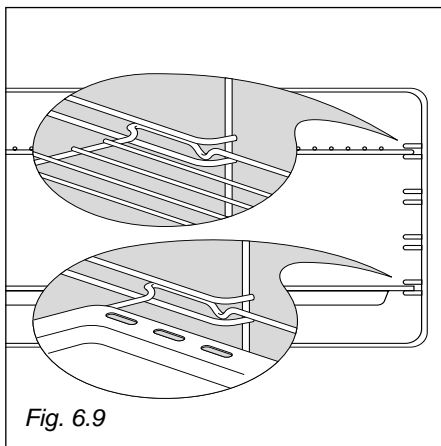

Fig. 6.9
- Slide the tray and rack into the runners (Fig. 6.9).
The rack must be fitted so that the safety catch, which stops it sliding out, faces the inside of the oven (fig. 6.9).